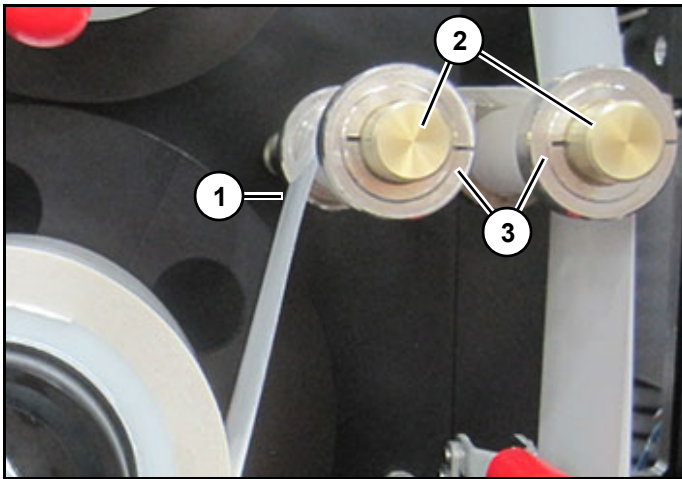

Figure 5
4. Thread seal tape (1) over seal guide spindle (2), ensure tape is between collars (3). (Figure 5)